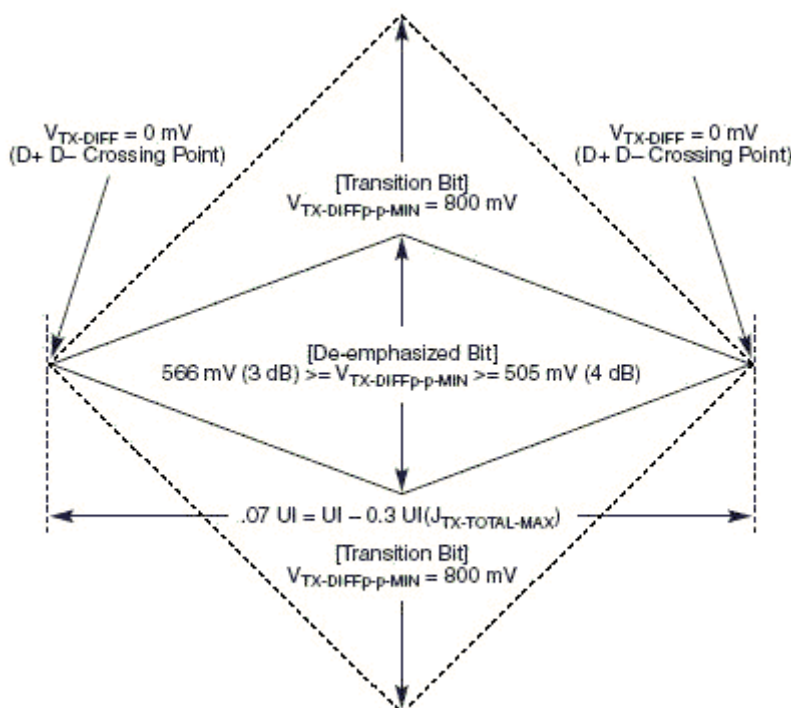
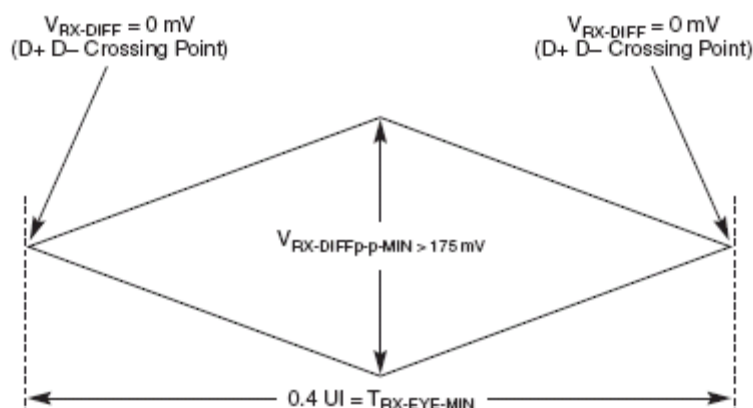
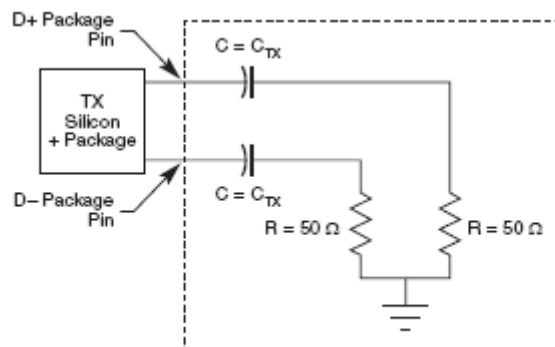

Figure 55. Minimum Transmitter Timing and Voltage Output Compliance Specifications
Figure 56. Minimum Receiver Eye Timing and Voltage Compliance Specification
Figure 57. Compliance Test/Measurement Load
2. Specified at the measurement point into a timing and voltage compliance test load as shown in Figure 57 and measured over any 250 consecutive TX UIs. (Also refer to the transmitter compliance eye diagram shown in Figure 55.)
4. The Transmitter input impedance shall result in a differential return loss greater than or equal to 12 dB and a common mode return loss greater than or equal to 6 dB over a frequency range of 50 MHz to 1.25 GHz. This input impedance requirement applies to all valid input levels. The reference impedance for return loss measurements is 50 ohms to ground for both the D+ and D- line (that is, as measured by a Vector Network Analyzer with 50 ohm probes—see Figure 57). Note that the series capacitors C_{TX} is optional for the return loss measurement.
5. Measured between 20-80% at transmitter package pins into a test load as shown in Figure 57 for both V_{TX-D+} and V_{TX-D-} .
The TX eye diagram in Figure 55 is specified using the passive compliance/test measurement load (see Figure 57) in place of any real PCI Express interconnect + RX component.
2. Specified at the measurement point and measured over any 250 consecutive UIs. The test load in Figure 57 should be used as the RX device when taking measurements (also refer to the Receiver compliance eye diagram shown in Figure 56). If the clocks to the RX and TX are not derived from the same reference clock, the TX UI recovered from 3500 consecutive UI must be used as a reference for the eye diagram.
4. The Receiver input impedance shall result in a differential return loss greater than or equal to 15 dB with the D+ line biased to 300 mV and the D- line biased to -300 mV and a common mode return loss greater than or equal to 6 dB (no bias required) over a frequency range of 50 MHz to 1.25 GHz. This input impedance requirement applies to all valid input levels. The reference impedance for return loss measurements for is 50 ohms to ground for both the D+ and D- line (that is, as measured by a Vector Network Analyzer with 50 ohm probes - see Figure 57). Note: that the series capacitors CTX is optional for the return loss measurement.
The RX eye diagram in Figure 56 is specified using the passive compliance/test measurement load (see Figure 57) in place of any real PCI Express RX component.
Note: In general, the minimum Receiver eye diagram measured with the compliance/test measurement load (see Figure 57) will be larger than the minimum Receiver eye diagram measured over a range of systems at the input Receiver of any real PCI Express component. The degraded eye diagram at the input Receiver is due to traces internal to the package as well as silicon parasitic characteristics which cause the real PCI Express component to vary in impedance from the compliance/test measurement load. The input Receiver eye diagram is implementation specific and is not specified. RX component designer should provide additional margin to adequately compensate for the degraded minimum Receiver eye diagram (shown in Figure 56) expected at the input Receiver based on some adequate combination of system simulations and the Return Loss measured looking into the RX package and silicon. The RX eye diagram must be aligned in time using the jitter median to locate the center of the eye diagram.
The reference impedance for return loss measurements is 50. to ground for both the D+ and D- line (i.e., as measured by a Vector Network Analyzer with 50. probes—see Figure 57). Note that the series capacitors, CTX, are optional for the return loss measurement.
The AC timing and voltage parameters must be verified at the measurement point, as specified within 0.2 inches of the package pins, into a test/measurement load shown in Figure 57.